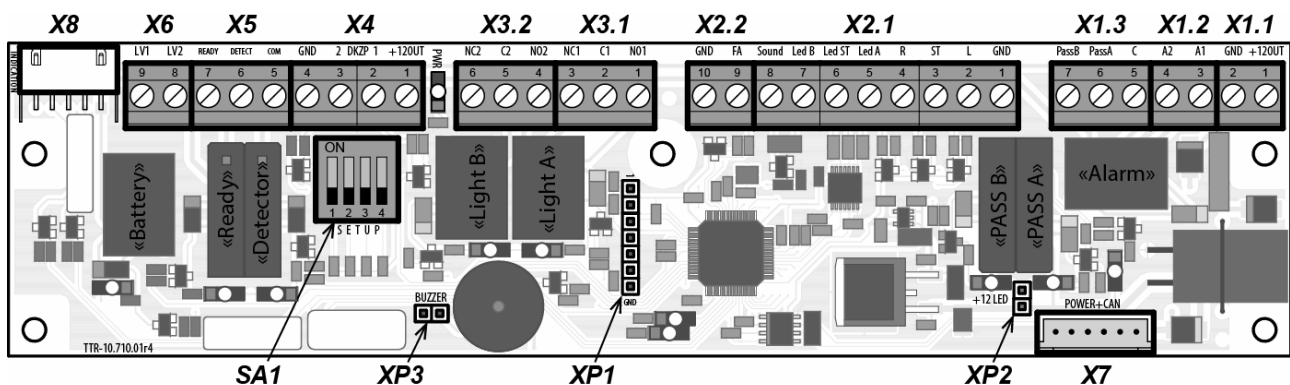

Figure 7. Interface board
The following devices are connected to the interface board: RC-panel / WRC / ACS controller, emergency unblocking *Fire Alarm* device, remote display units and other optional equipment. Wired connection is made in accordance with the connection layout (Fig. 17). The general view of the interface board (10) (Fig. 7).
The control mode is set either **ON** or **OFF** by **SA1 (SETUP)** switcher on the interface board (10). Switcher location (Fig. 7). Shift the switcher into **ON** position to switch the turnstile into pulse mode. Shift the switcher into **OFF** position to switch the turnstile into potential control mode.